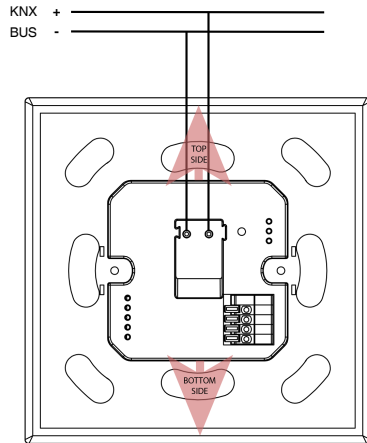

Fig.3
- Finally, the Pure Touch is gently placed in the junction box with the top part (see Fig.3) facing up with holding the right and left sides of the Pure Touch and the mounting process is completed.